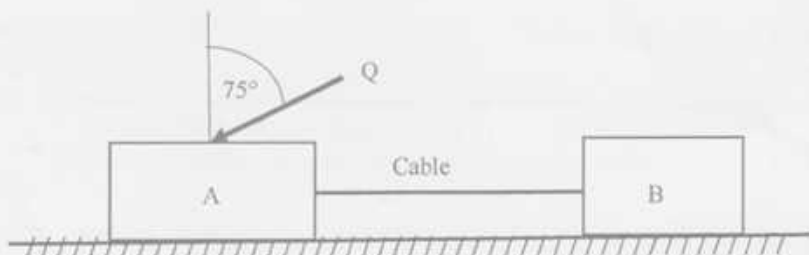

Figure 3
3. A block A weighing 300 lb is acted upon by a force Q whose direction is at 75° with the vertical as shown in Figure 3. A weightless cable connects A to another block B, which weighs 500 lb. If $f_A = f_B = 0.33$, determine (a) the force Q which will cause impending motion towards the left, (b) the tension in the cable.